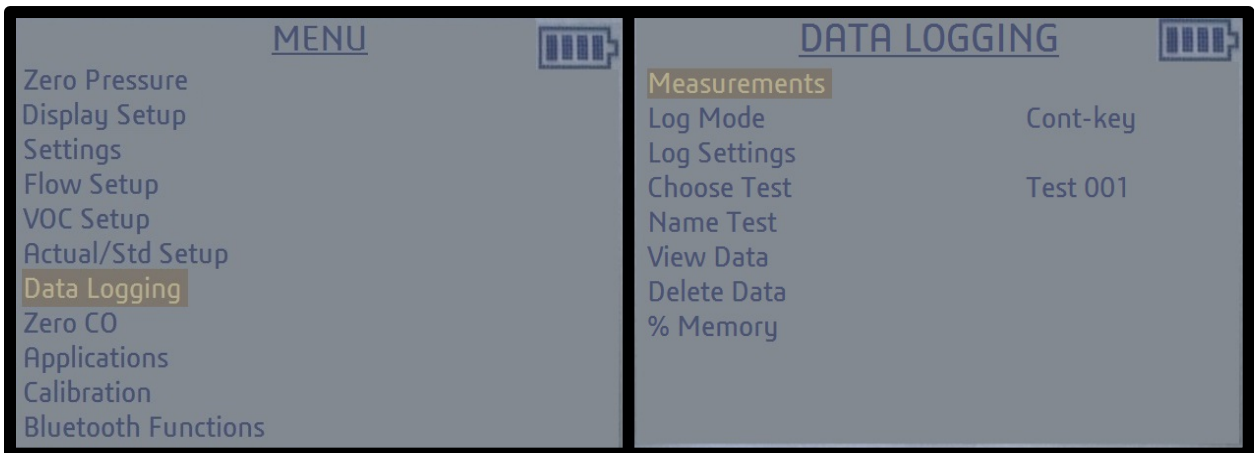

Figure A.10.5: The “Data Logging” option highlighted on the “Menu” screen shown on the left. The “Data Logging” screen is shown on the right.
9. At the “Menu” screen, navigate to the “Data Logging” option and select it using the back-arrow key (left of Figure A.10.5), which will take you to the “Data Logging” screen (right of Figure A.10.5). The “Data Logging” option allows you to select the mode in which measurements will be saved onto the TSI 9545 Velocicalc Air Velocity Meter.